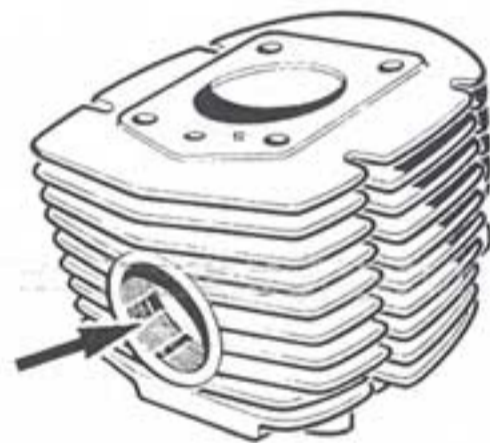

Fig. 1
- Scrape the carbon deposits from the exhaust port (fig. 1).